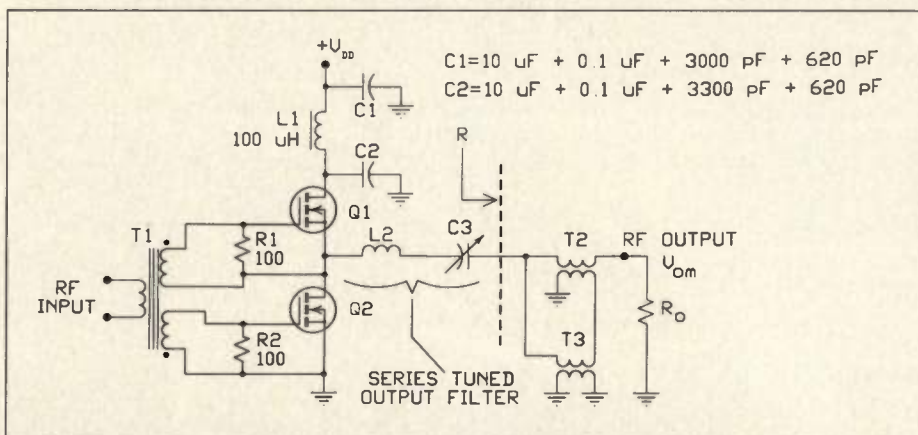

Figure 1. Quasi-complementary power amplifier.
The quasi-complementary power amplifier (Figure 1) directly connects a pair of n-channel MOSFETs in a totem-pole configuration. Drive is supplied through a specially designed input transformer. An important advantage of this topology is that it can be implemented with currently available RF devices.
The complementary voltage switching configuration (Figure 1) is the least complicated class-D power amplifier (PA) (3). Transformer T1 causes the driving
The brass-tube transformer is built from two 0.48-cm (3/16-in) brass tubes connected in series through ten Ceramic Magnetics CMD5005 cores ($9.525 \times 4.763 \times 4.763$ mm) with two 2-turn windings of 24-AWG enamel-coated wire. Its common mode impedance of about 1000 ohms at 3.5 MHz results in a one percent increase in supply current. The driving impedance is about 12.5 ohms when used with the gate swamping resistors shown in Figure 1. It keeps gate-to-gate phase error below 20 degrees for frequencies from 1 to 60 MHz. (A comparable transformer with a 50 ohm input impedance can be fabricated by using only a single turn for each secondary winding and adding one or two more cores to each stack).